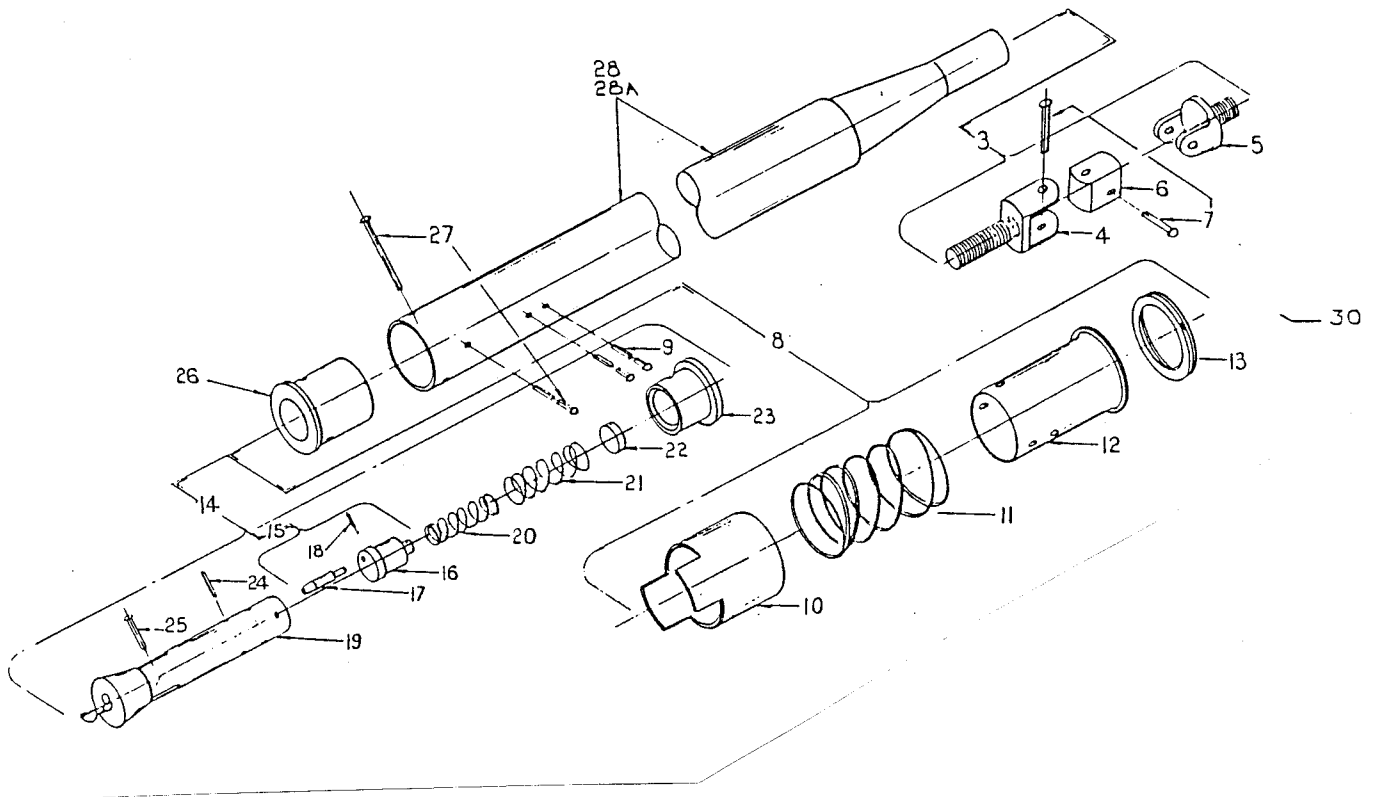

FIGURE 1 - A2866-3 AND -4 STRUT ASSEMBLY
A. Disassembly (See Figure 1)
- (1) Drill out two rivets (27) using a 0.125 inch (3.175 mm) diameter drill. Remove end plug (26) and lock assembly (14).
- (2) Drill out four rivets (9) using a 0.125 inch (3.175 mm) diameter drill. Remove clamp assembly (8) from tube (28).
B. Assembly (See Figures 1 and 2)
- (1) Remove any burrs around drilled out rivet holes.
- (2) Clean inside surface of wear sleeve (12) and outside surface of tube (28) in area to be bonded. Clean parts with lint-free cloth moist with dry cleaning solvent, 1-1-1 trichloroethane or equivalent.
Item numbers correspond to those shown in Figures 1 and 2.